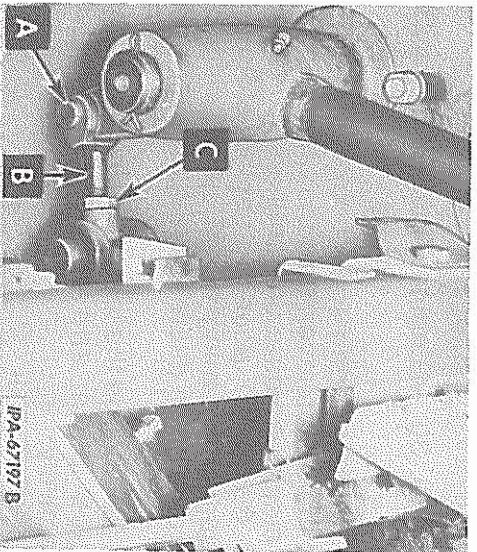

FIG. 31 — Hand Lever Adjustment
9. The clutch hand lever must be positioned so it does not come into contact with the platform at either end of its travel. If necessary, the lever position can be changed by removing the cotter pin and end pin (A, Fig. 31), loosening the locknut (C) and rotating the connecting link (B). Tighten locknut and install and secure the end pin with the cotter pin.